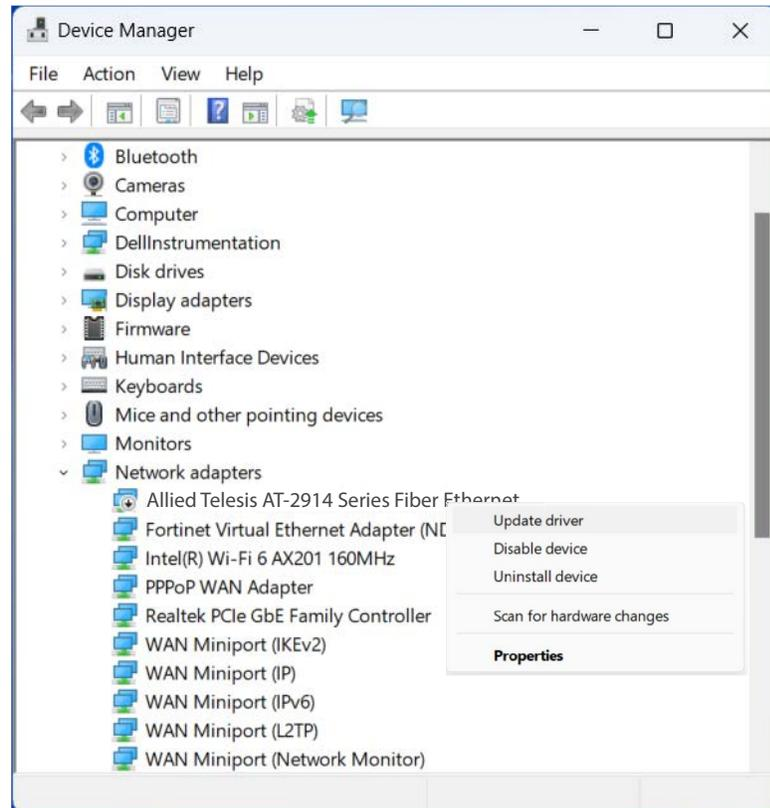

Figure 20. List of Network Adapters in Device Manager
4. In the shortcut menu, select **Update driver** as shown in Figure 20.